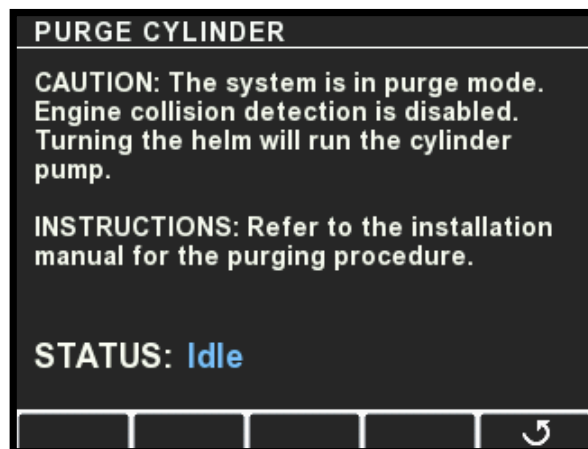

Figure 7-8.
8. Select the cylinder to purge and press ► to enter Purge Mode. If you don't see the Purge Cylinder screen as shown in figure 7-8, cycle the system power and try again. The system will not enter Purge Mode if the helm has been turned since the ignition was turned on.